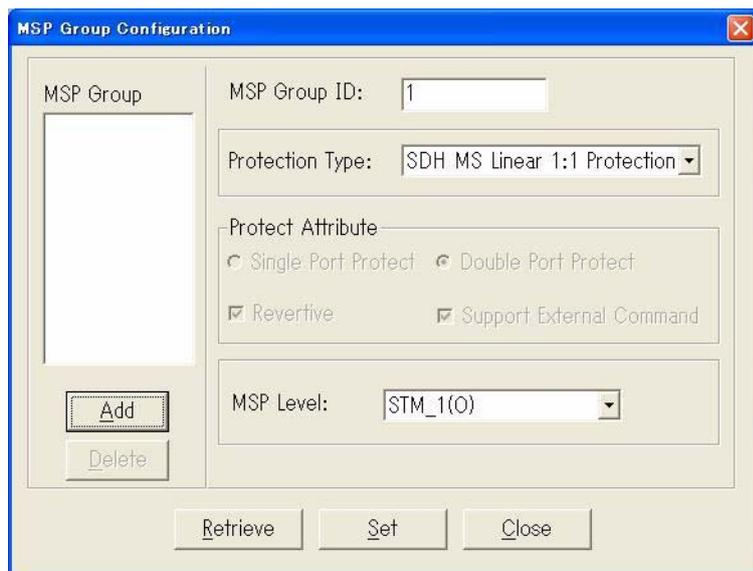

Fig. 4-4-20 MSP Group Configuration
- 2 From the main menu on the ADM Management Tool, select **MSP Group Configuration** from the **Configuration** menu. The **MSP Group Configuration** window shown in *Fig. 4-4-20* appears:
- 7 Click **Add** button, **MSP Configuration** window pops up shown in *Fig. 4-4-20*: